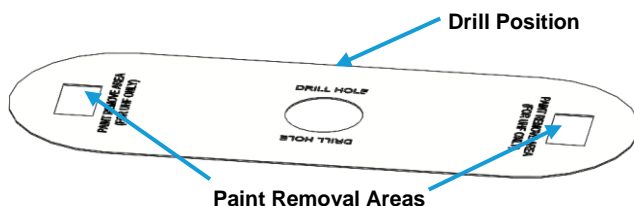

Figure 3
4. Following the template, mark the Paint Removal Areas (shown in Figure 3).